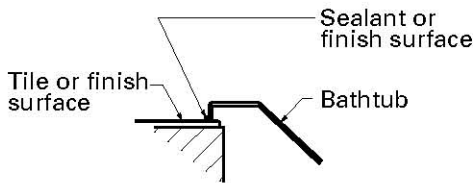

FIGURE 3
- For tiled-in applications: Bring the tile or finish surface down over face of optional tile flange and seal with silicone caulk (as shown in Figure 3, left).